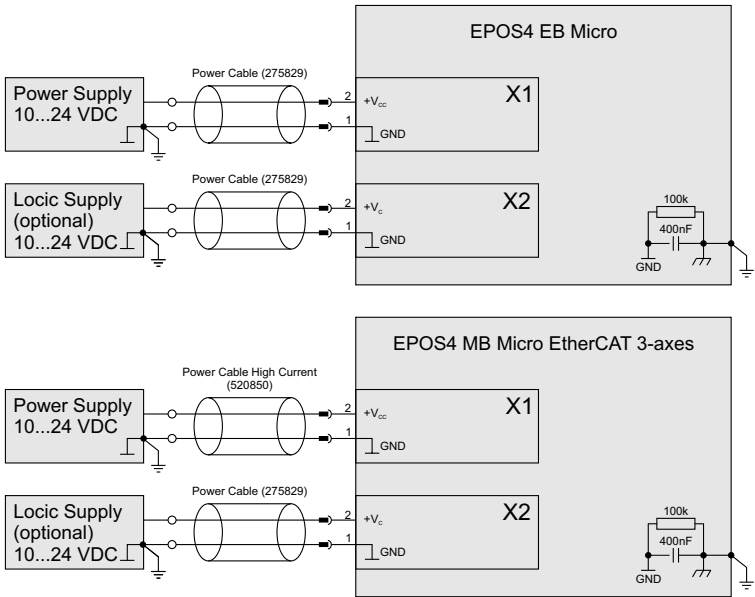

Figure 5-65 Power & logic supply
5.1.2 EC (BLDC) Motor**Power supply & optional logic supply** Figure 5-65**Motor & feedback signals**